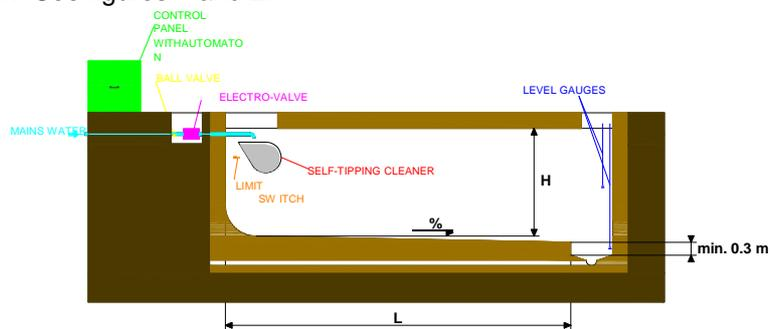

Figure 1: Mains water filling circuit.
Normally the filling of the cleaner-bucket is carried out using mains water, although it is also possible to set up a tank that collects waste water, ground water or even water from a nearby river, and pump the water to fill the cleaner. See figures 1 and 2.
There is a direct relation between the capacity of the cleaner-bucket (litres/metre), the length to be cleaned (L), the fall height (H) and the gradient of the bottom (%). See figures 1 and 2.
- The capacity of the clean water collection channel must be at least 1.2 times the volume of water in the cleaner. This channel must have a gradient of 3% towards its outlet and a minimum depth of 0.30 m. See Figures 1 and 2.
3. Accessories: The accessories related to installing a self-tipping cleaner are: (See Figure 1)